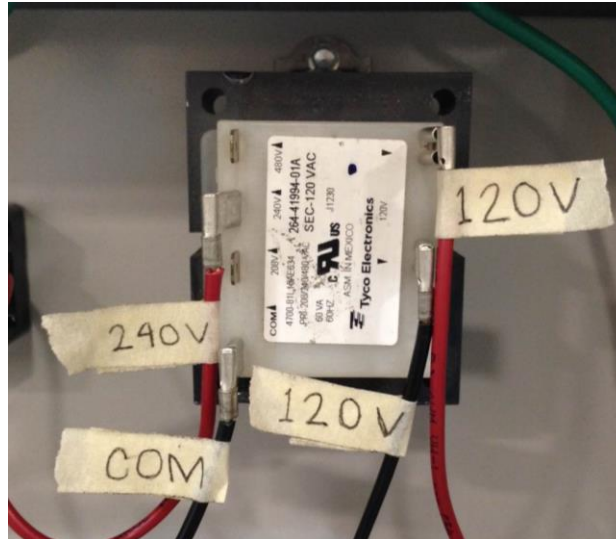

Figure 9. Labeled Transformer Connections
- Using the masking tape, label the 4 wires connected to the transformer with the appropriate connection (see Figure 9 which is shown as a 240V connection (as an example). Keep in mind that the 240V wire may be connected to the 208V or 480V connection based on the initial configuration of the water heater).